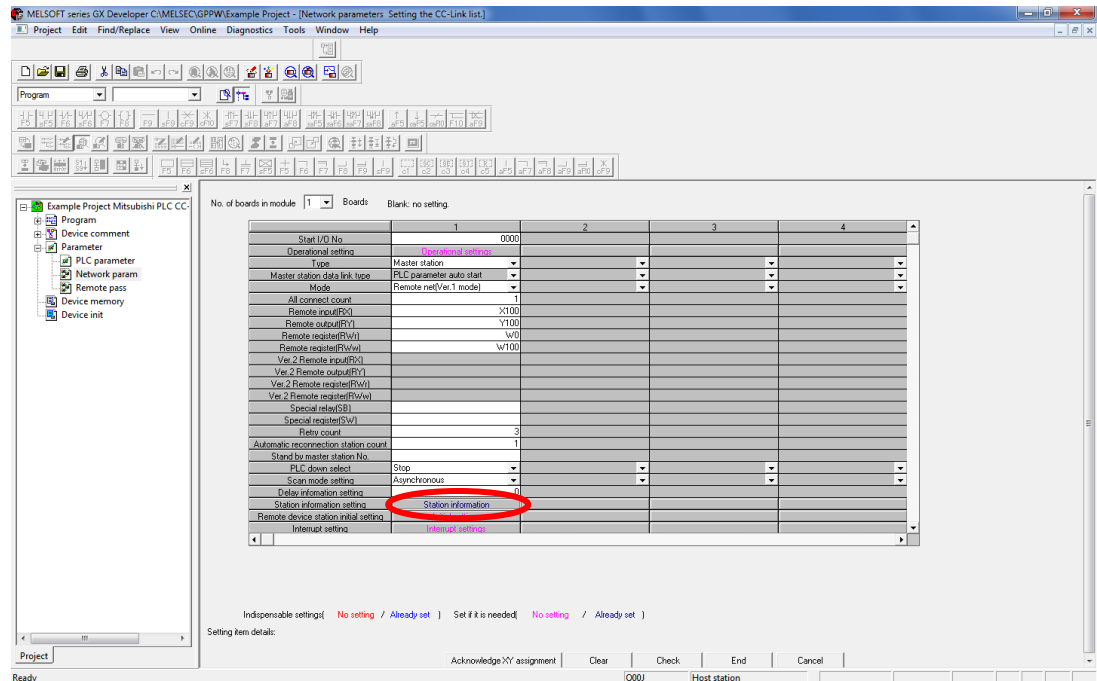

Figure 5
**Station information setting** is where the parameters for each slave station are configured. Click on *Station information* as shown in Figure 5 below.